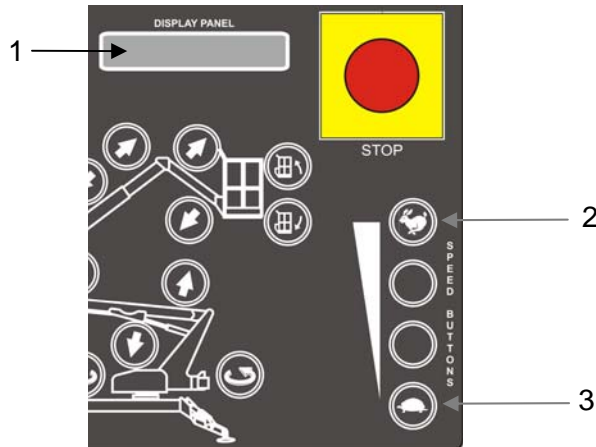

Figure 4-5. Display Run Time Hours
- Repeat every 100 **RUN** hours, or annually, whichever comes first. Run hours are displayed by simultaneous pressing (pushing) the **RABBIT (2)** and the **TURTLE SPEED (3)** buttons on the ground (lower) control panel and reading the **DISPLAY PANEL (1)**. Refer to Figure 4-5.